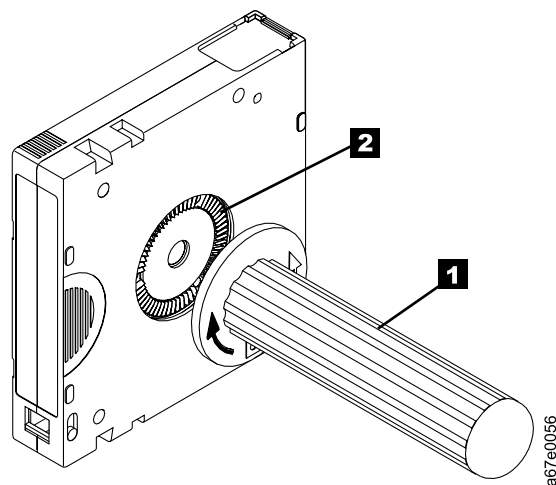

Figure 12. Rewinding the tape into the cartridge
5. To rewind the tape, insert the cartridge manual rewind tool ( **1** in Figure 12) into the cartridge's hub ( **2** ) and turn it clockwise until the tape becomes taut.